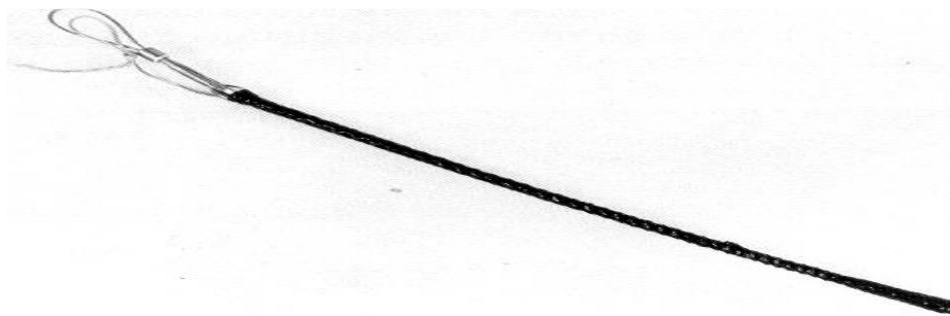

**Figure 7**
- Adjust the grip position on the inner sheath such that the wire mess section is completely over the cable. Anchor the grip into position by binding with stainless steel wire. (figure 7)